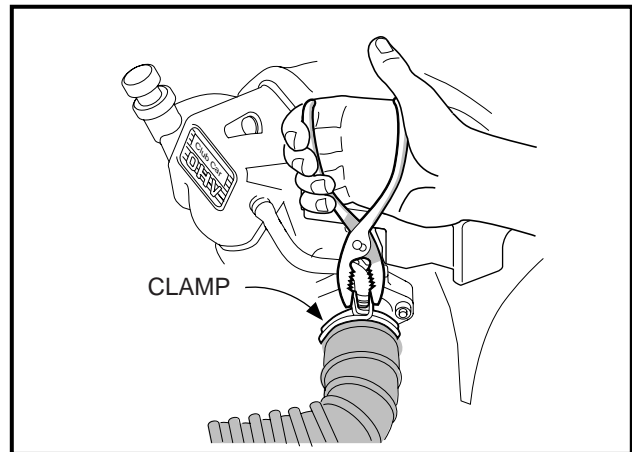

Figure 16-111 Air Intake Hose
31. Connect air intake hose to carburetor and secure hose clamp (**Figure 16-111, Page 16-45**).